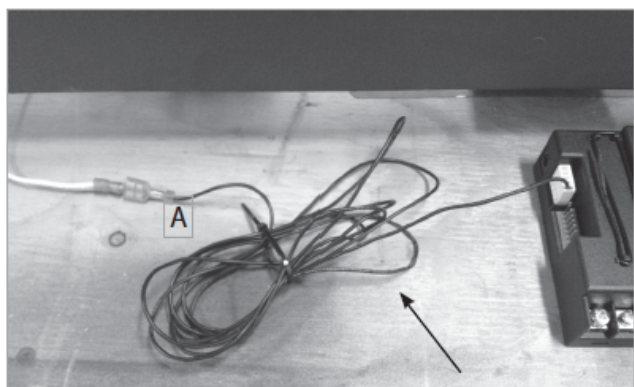

Figure 1
1. Remove black extension wire from the system by disconnecting the push connector from the white 2nd thermocouple lead (A) and the white 5-position connector (B) from the receiver. See Figure 1.
3. Keeping the black connector (C) inside the mounting hole, thread the black 5-wire cable through the workbox and bring the red connector (D) to the location of the receiver.
4. Connect the black connector (C) to the wall switch, the red connector (D) to the receiver and the push connector (E) to the white 2nd thermocouple lead (A)